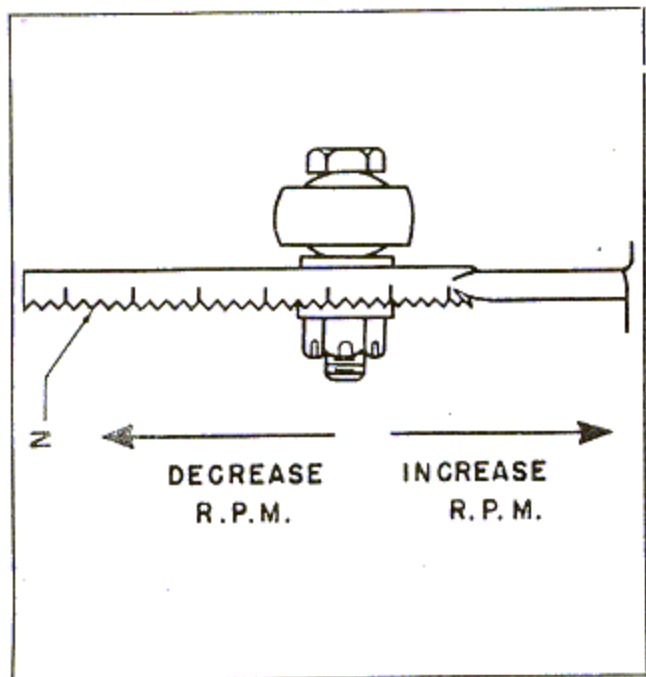

Figure 178—Automatic Control Ratchet
- In attaching rod (A) to lever (N), position it as shown in figure 178. The mark on the side of the serrated washer must align with the arrow on the side of the lever (N) as in figure 178.